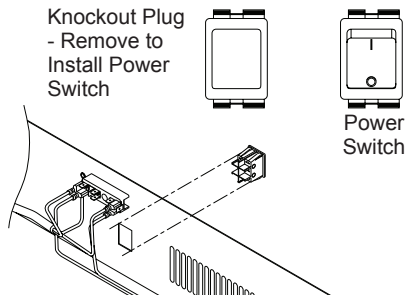
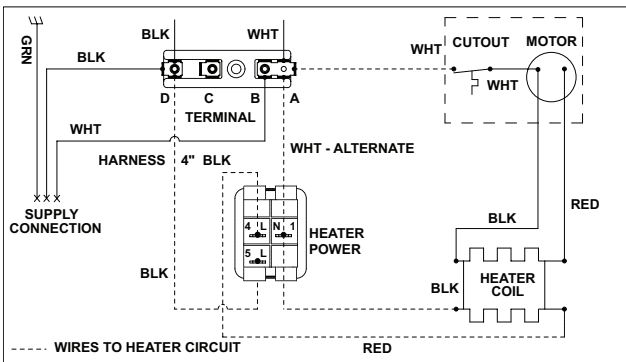

Figure 24 - Installing Heater Power Switch
Figure 25 - Heater Circuit Diagrams
11. Remove control panel knockout plug located in heater switch position by pressing locking tabs and pushing plug out through front of panel (see Figure 24).
12. Firmly insert red power switch into open mount location with "ON" (I) indicator positioned on top.
13. Connect white heater wire to neutral connection marked 'B' or 'A' on terminal block. See partial wiring diagram, Figure 25, page 12.